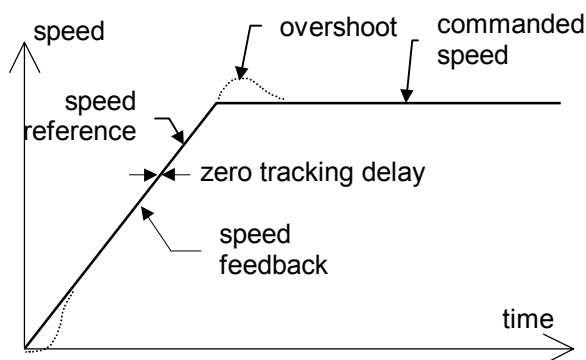

Figure 5.8 - PI Speed Regulator Example
When the Proportional plus Integral (PI) speed regulator is used, the response to a speed reference is different. As an example, the PI Speed Regulator's speed response is shown for a ramped speed reference in Figure 5.8. With the PI speed regulator, the end of each accel and decel period, there will be an overshoot. The amount of overshoot will be a function of the defined phase margin and response parameters.